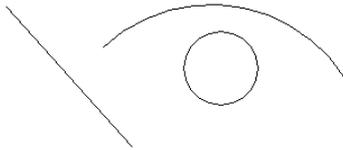

Figure 3-6: Your drawing should contain a line, an arc, and a circle.
7. Pick one point to be the center of the circle and another nearby point to specify the radius. Your drawing now contains a line, an arc, and a circle, and looks something like Figure 3-6. Of course, your objects will look different because you picked different points.